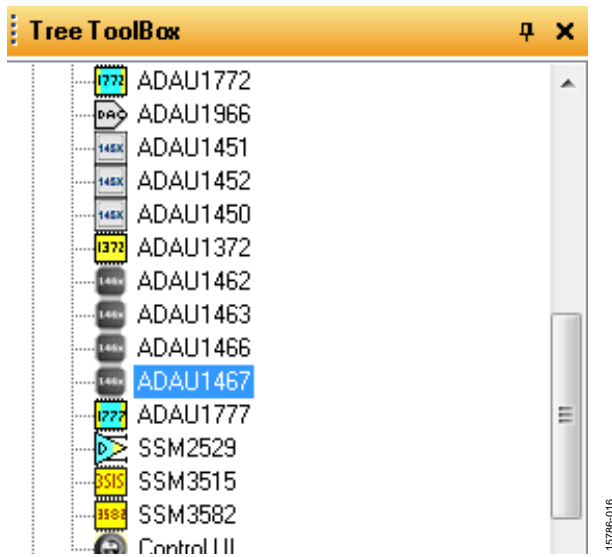

Figure 16. Adding an ADAU1467
- b. Add an **ADAU1467** component from the **Processors (ICs/DSPs)** subsection of the toolbox (see Figure 16).